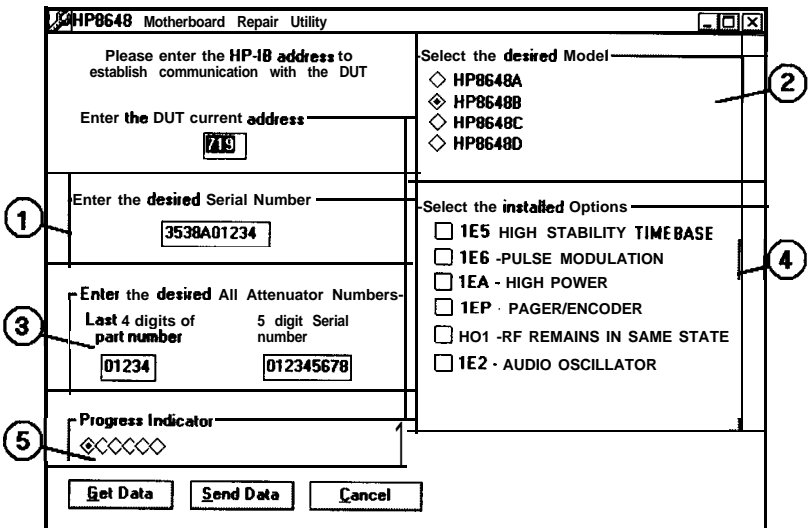

Figure 7-78. HP8648 Motherboard Repair Utility Window
3. The HP8648 Motherboard Repair Utility window is displayed so that the instrument information can be edited and stored in the motherboard. Refer to Figure 7-78. Edit the information in this window to reflect the actual HP 8648 has been changed.
While the information is being downloaded to the motherboard, the Progress Indicator (refer to ⑤ in Figure 7-78) cycles through the indicator diamonds until the download is complete. This process can take several minutes to complete.